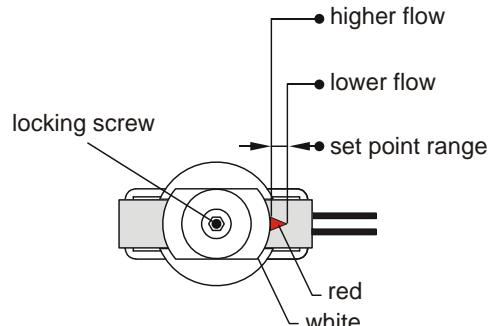
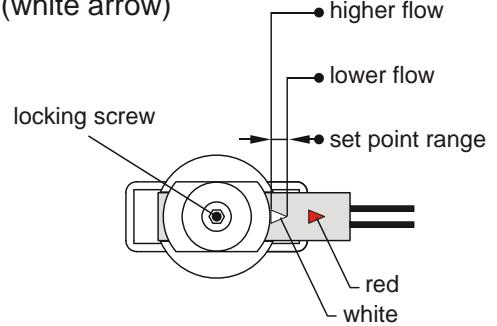

Fig. 18
Fig. 19
- ☞ Subsequently loosen the locking screw (2.5 hexagon socket screw for the brass and stainless steel version or recessed head screw for the plastic version) and position the switching unit until the red or white arrow are visible at the entry of the switching contact guide for a desired make contact (→ Fig. 18) or break contact (→ Fig. 19) respectively.